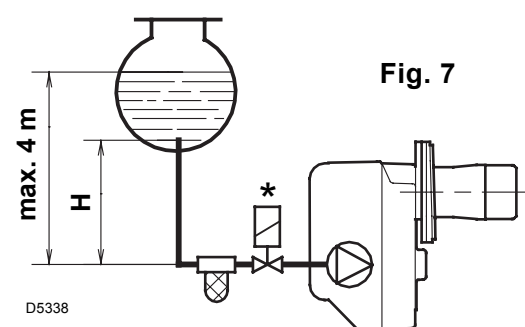
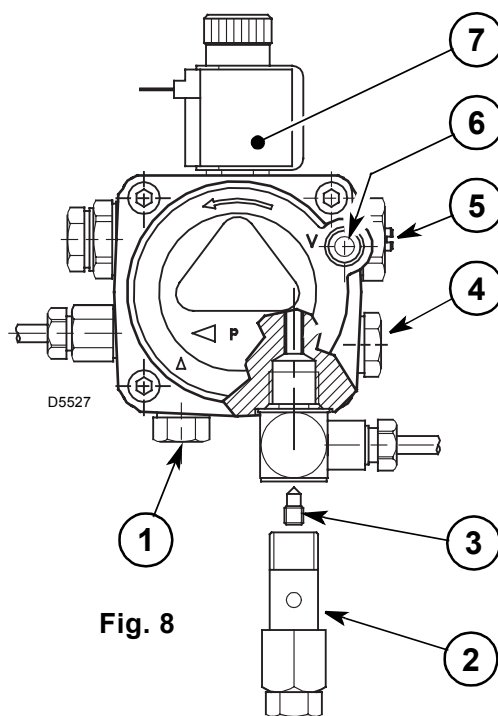

Fig. 7
Fig. 8
In order to obtain one pipe working it is necessary to unscrew the pin (2), remove the by-pass screw (3) and then screw again the pin (2), (see fig. 8).
On the system in fig. 7 it is sufficient to loosen the suction gauge connection (6, fig. 8) and wait until oil flows out.